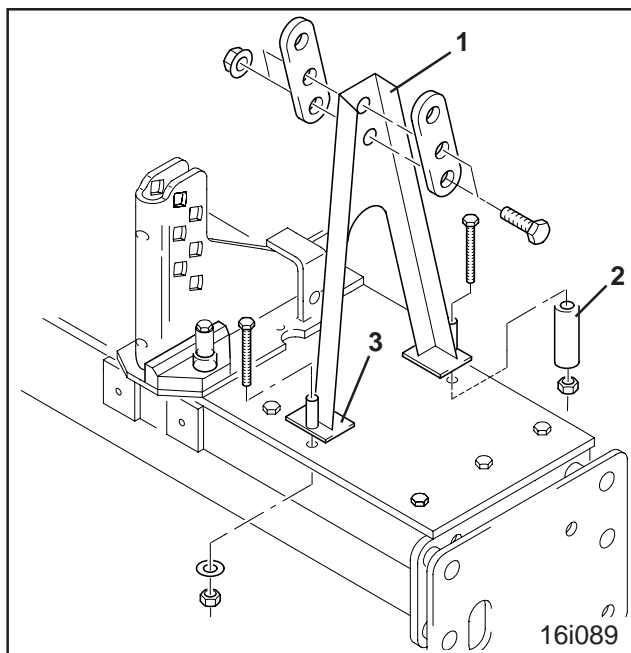

Fig. 6.4
Bolt on top link brackets (Fig. 6.4/1). Hereby observe:
- the front bolt connection has additionally to be provided with a sleeve (Fig. 6.4/2).
- place a 10 mm plate (Fig. 6.4/3) underneath every top link bracket in the rear, in case the soil tillage implement has not got a levelling rod.